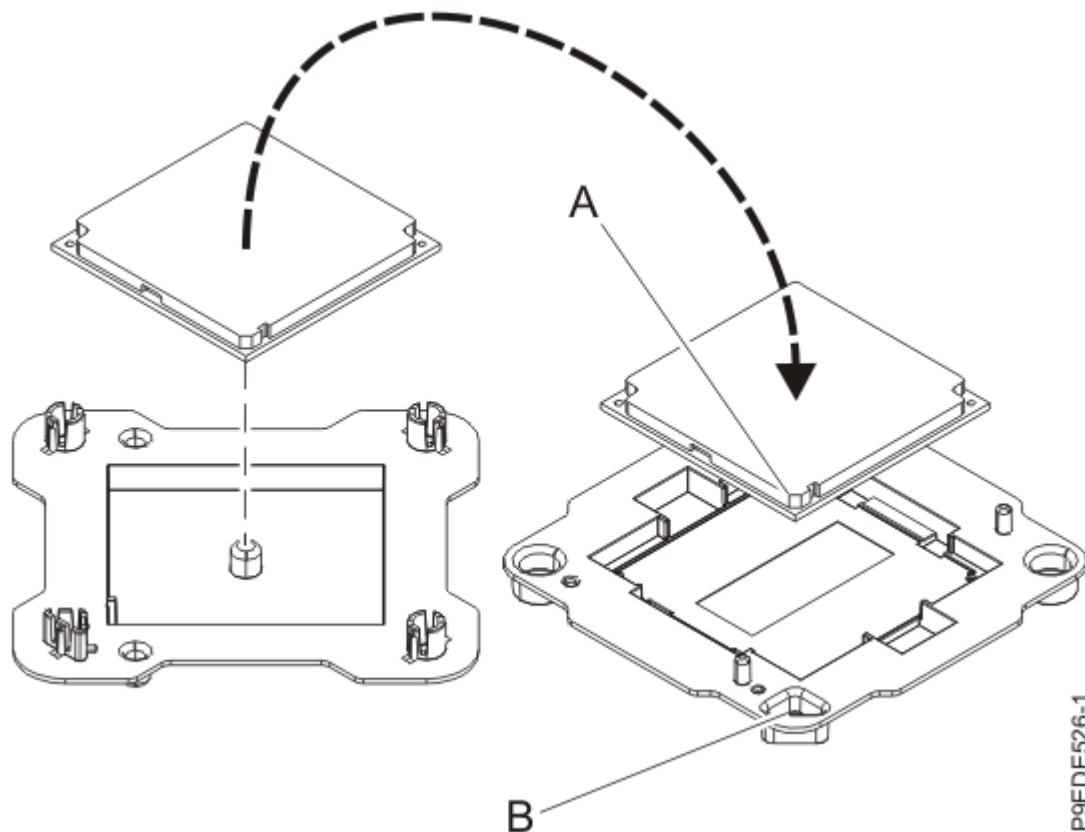

Figure 162. Placing the system processor module into the packaging
12. Lightly grip the system processor module that you replaced by the edges and lift it off the packaging cover. Align the beveled corner of the module **(A)** to the corner of the packaging with triangle **(B)** and place it in the packaging, as shown in Figure 162 on page 176. Close the packaging cover.